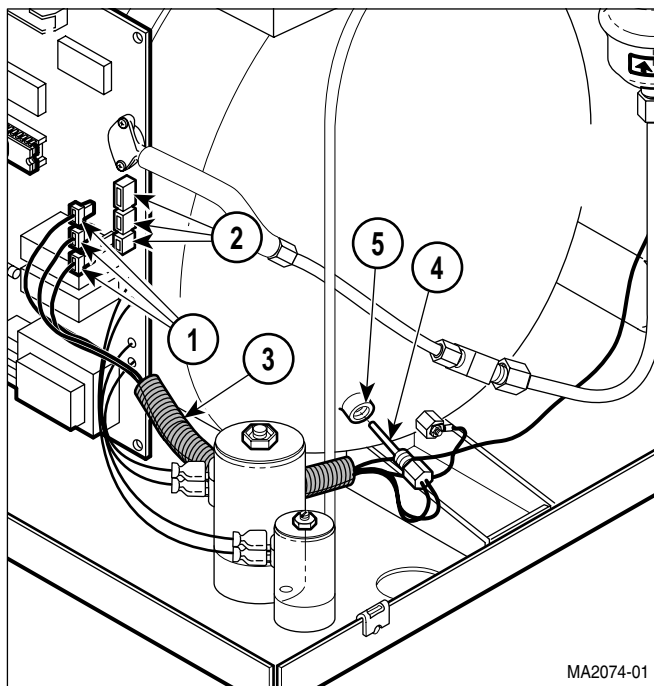

Figure 4-8. Temperature Sensor Assembly
- (2) Disconnect two / three wire harnesses (1, Figure 4-8) from two / three terminals (2).
- (3) Remove flex guard tubing (3) from two / three wire harnesses (1).
- (4) Remove temperature sensor assembly (4) from pressure vessel (5).